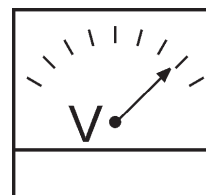

Figure 47. Voltmeter
13. The generator's AC-voltmeter (Figure 47) will display the generator's output in **VOLTS**. If the voltage is not within the specified tolerance, use the voltage adjustment control knob (Figure 48) to increase or decrease the desired voltage.